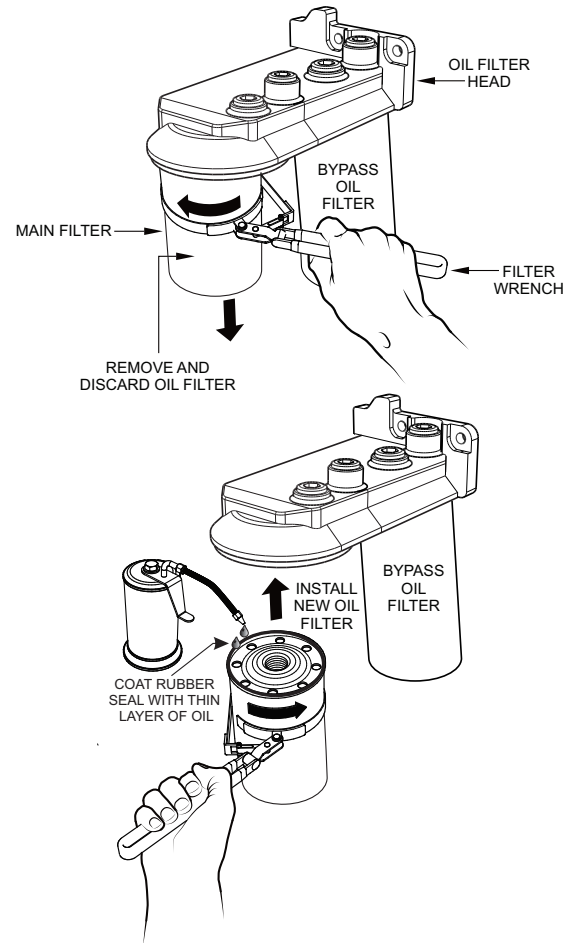

Figure 67. Oil Filter Replacement
1. Clean the area around the **oil filter head** (Figure 67).
2. Using an **oil filter wrench**, remove the **engine oil filter** (Figure 67).
3. Coat the rubber seal (gasket) surface of the new oil filter with clean 15W-40 engine oil (Figure 67).